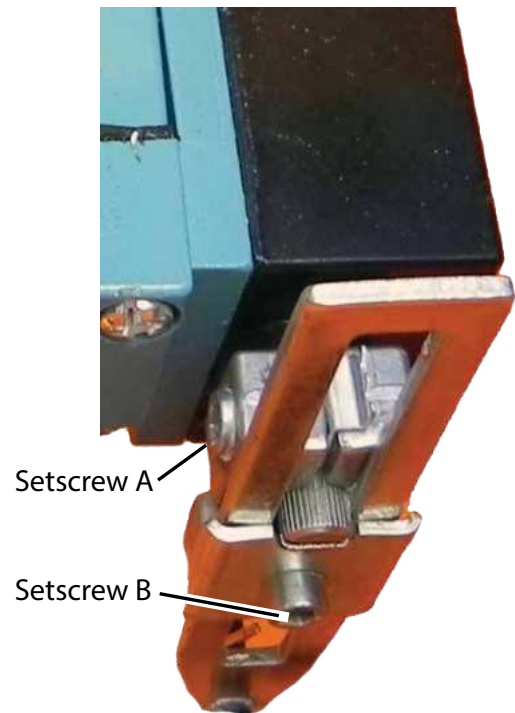

Figure 5-12. Actuator Arm - Setscrews A and B
2. Loosen Setscrew A on the actuator arm. **(Figure 5-12)**
1. Loosen Setscrew B. **(Figure 5-12)**